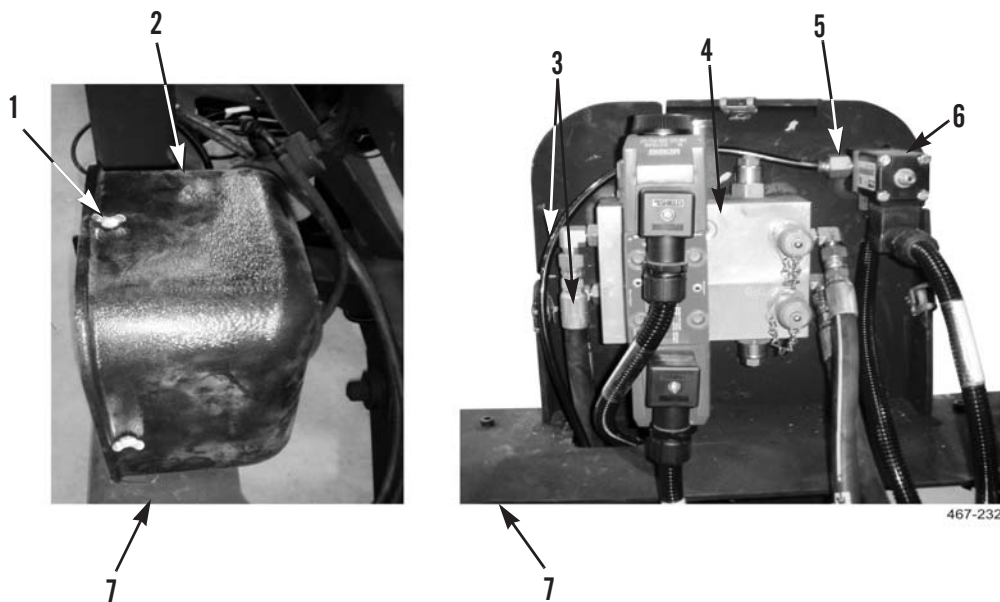

Figure 17. Connect Hydraulic and Pneumatic Lines.
7. Route pneumatic line (Figure 17, Item 5) from under stowage assembly and connect to solenoid valve (Figure 17, Item 6).
8. Route two hydraulic hoses (Figure 17, Item 3) from under stowage assembly and connect to manifold (Figure 17, Item 4).
9. Install manifold cover (Figure 17, Item 2) on stowage assembly (Figure 17, Item 7) and tighten three locking pins (Figure 17, Item 1).